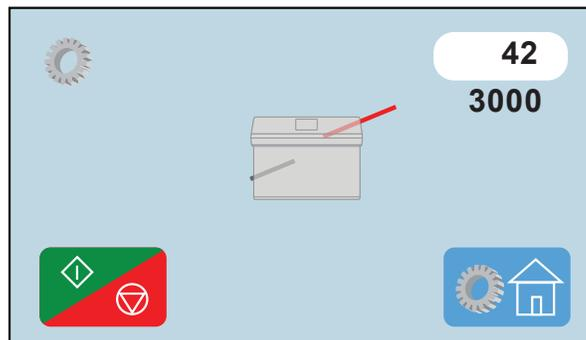

Fig. 55a
- Press the Start/Stop icon “” the fold stop will move to the highest position and a number will appear in the white box (Fig. 55a). Press the Start/Stop icon again to move the fold stop to the lowest position. A new number will appear in the white box for the lower position. Run the test a couple more times if the numbers remain with in 1 to 2 of the original numbers the fold table is working properly.